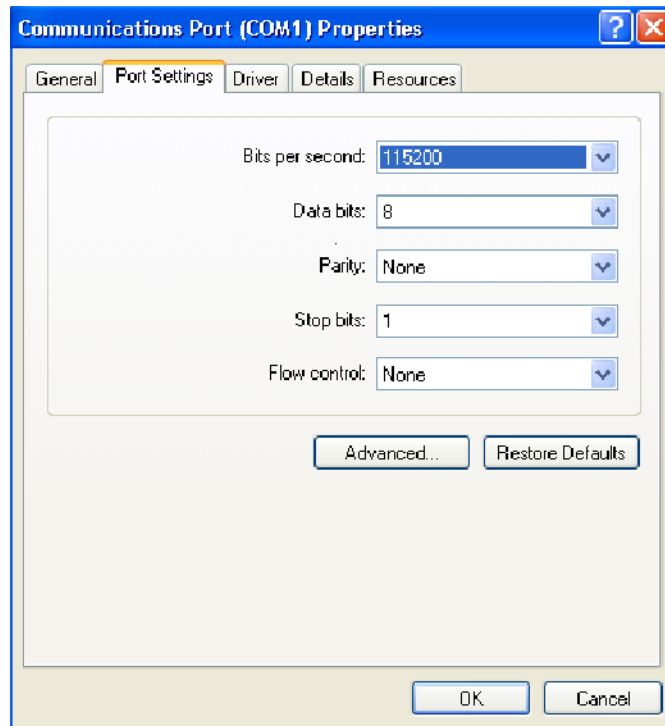

Figure 4-1. Set Up the Communications Port Properties
Configuration is accomplished with a personal computer (PC), running any simple terminal emulator for the computer interface. This manual uses a Windows “HyperTerminal” screen as the computer interface tool. To begin configuration, connect 12 VDC power to the AIS AtoN. Connect the AIS AtoN’s Utility #1 port to the computer’s serial port. Turn on the unit. In the Microsoft Windows “Properties” window, set the “Port Settings” at “115200 Baud,” “8 Data Bits,” “No Parity,” “1 Stop Bit,” and “No Flow Control,” as shown in Figure 4-1.